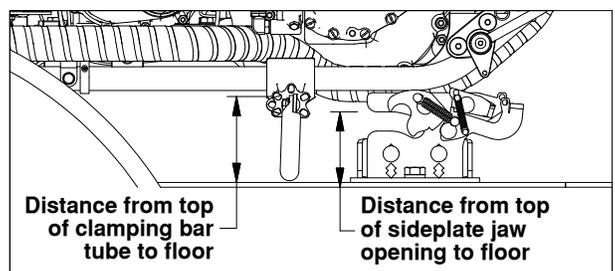
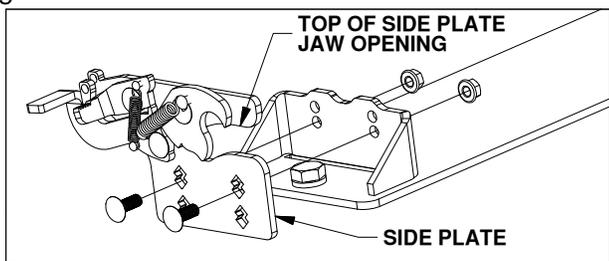

FIGURE C1: View of side of trailer.
Figure C2: View of Biker Bar base.
1. **Measure clamping bar on bike.** With the clamping bar installed and while sitting on the bike, measure the distance from the top of the clamping bar tube to the trailer floor, see Figure C1. Check dimension on both sides of the bike to ensure bike is even side to side.
- Adjust base height.** Adjust the positions of the side plate and the 3/8 carriage bolts. The height of the side plate can be adjusted in 1/4" increments, see figures C2 & C3. Set the side plate so that the measurement taken from top of the side plate jaw opening is at the same height as the top of the clamping bar tube, or in the next position lower, see figure C1.